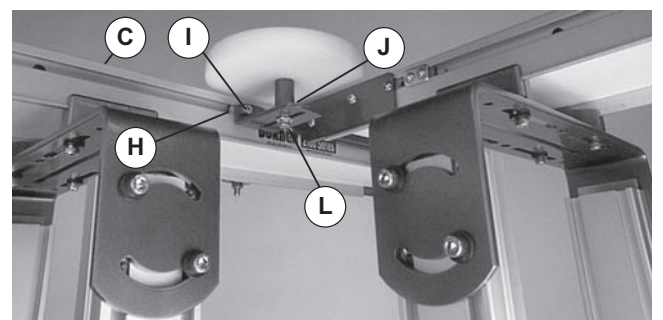

Figure 8
9. Trim excess guide (D) as required.
10. Install T-bar (Figure 8, item H) in T-slot of outfeed conveyor (C). Loosely attach guide wheel assembly (J) to T-bar with screws (I).
11. Adjust guide wheel assembly position, as required (Figure 8).
- Tighten screws (Figure 8, item I) to 73 in-lb (8 Nm)
- Tighten screw (L) 146 in-lb (16 Nm)